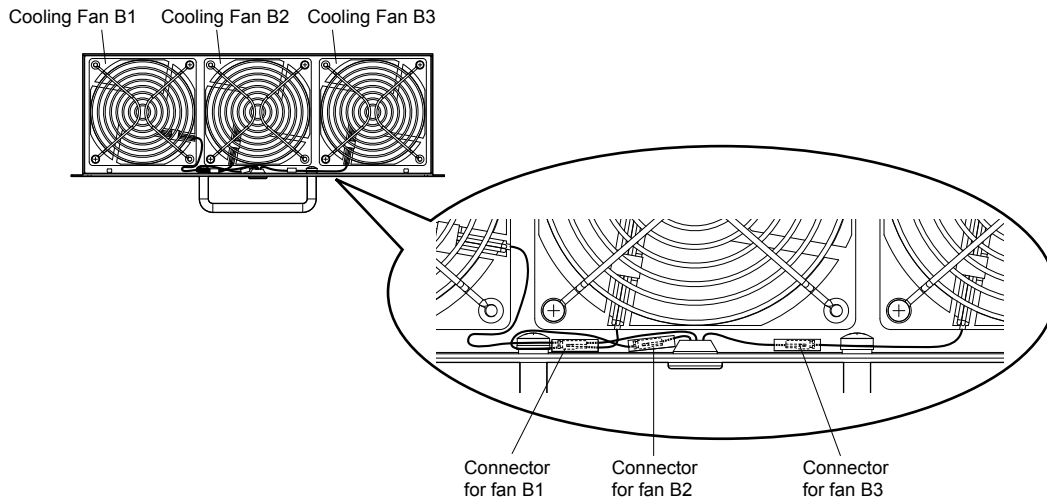

Figure 7.30 Cooling Fan Wiring: 4A0414
2. Place the fan connector covered by the tube as shown in Figure 7.30.